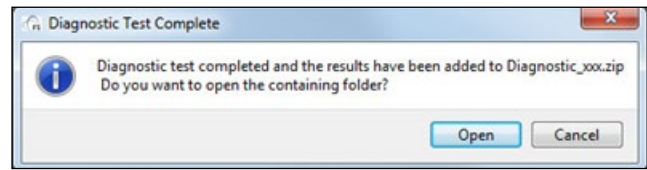

Figure 27: Diagnostic Test Complete Window
12. Wait for the Capture period to finish. The *Diagnostic Test Complete Window* will appear. **Figure 27**.